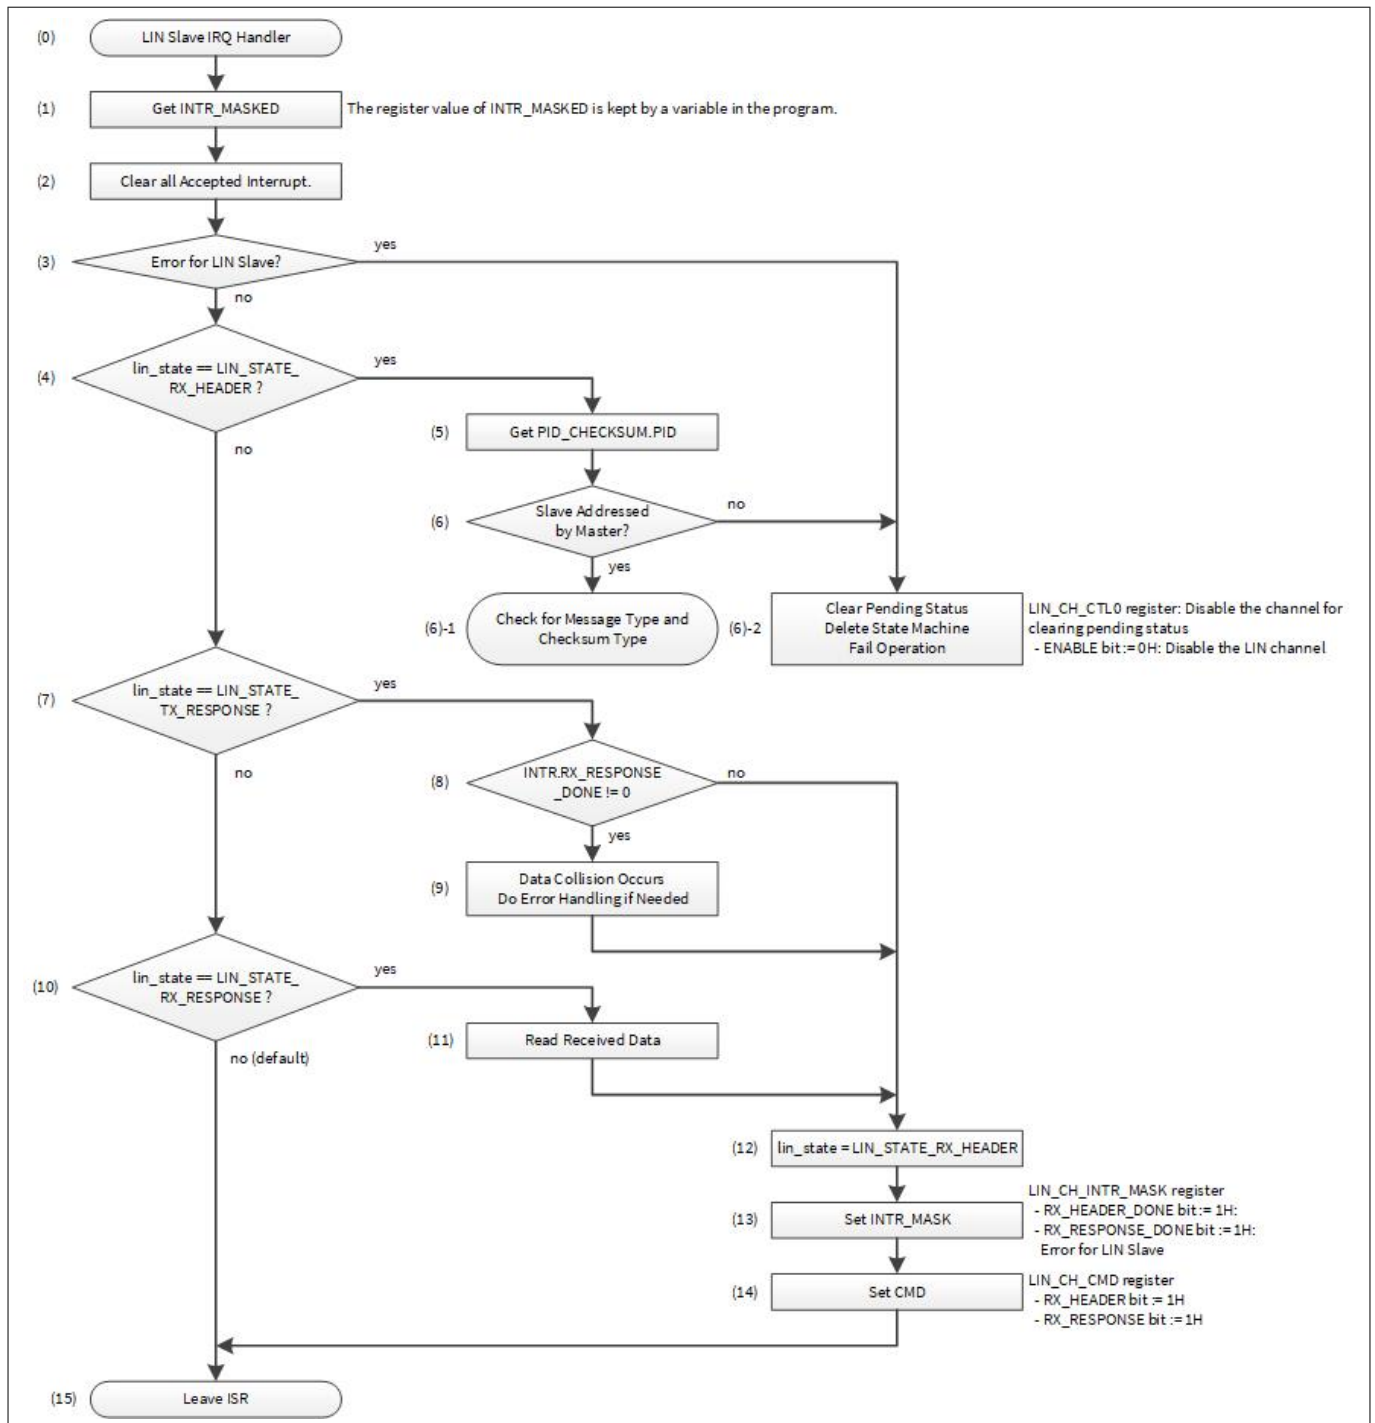
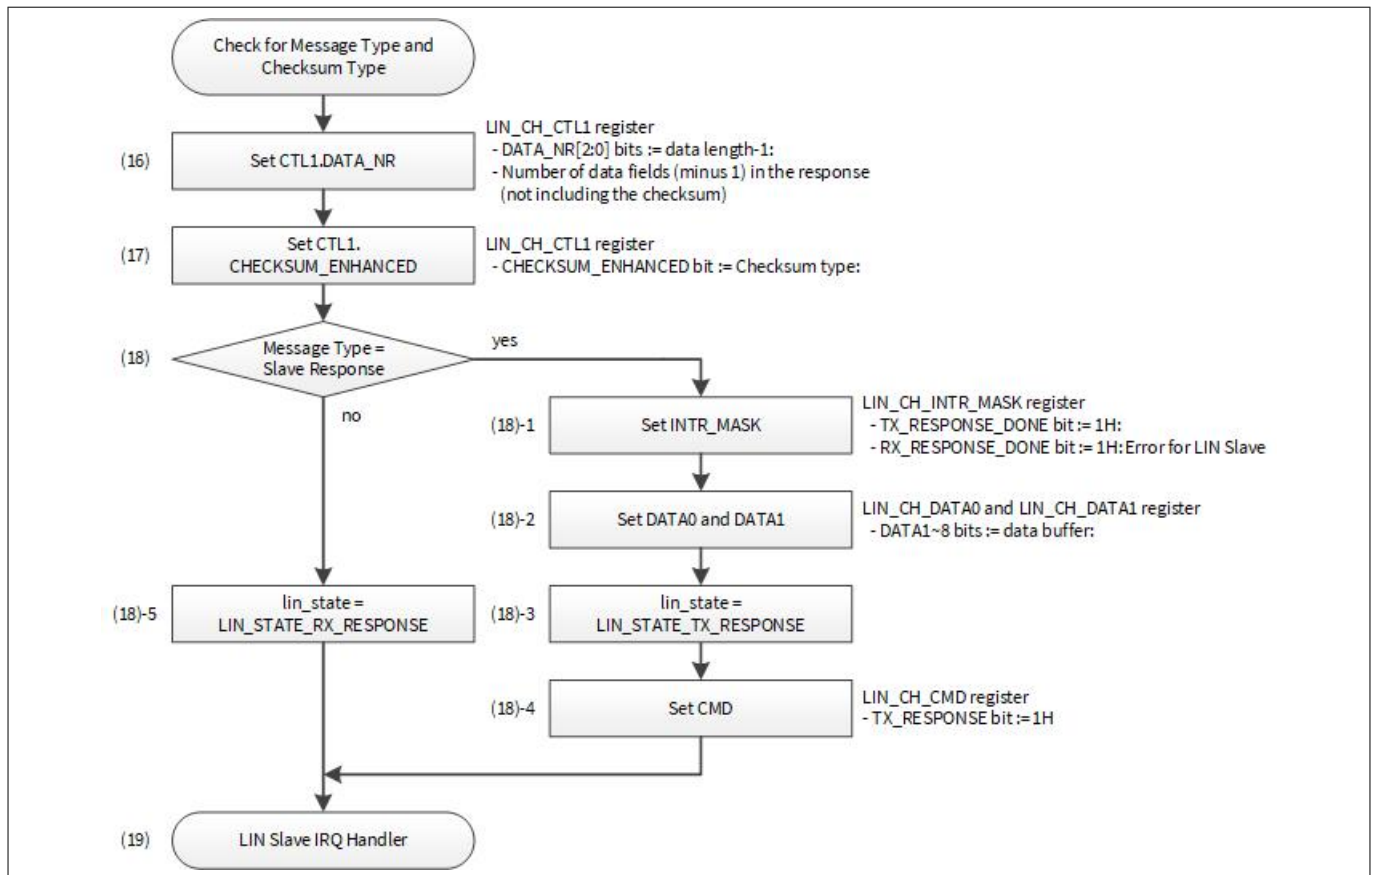

Figure 10 Example of LIN slave IRQ handler
Figure 11 Example of LIN slave checking for message type and checksum type
Figure 10 shows an example of how the LIN slave IRQ handler works. This flow is used in Code Listing 18.
- If the ID is present in Table 8, go to (6)-1
- (6)-1 Go to (0) in Figure 11
- (12) Configure the state to `LIN_STATE_RX_HEADER`.
- (13) Enable event interrupt by `LIN_CH_INTR_MASK` register.
- (14) Configure the command sequence.
- (15) Return from LIN slave IRQ handler and wait for the occurrence of the configured LIN interrupt as Table 2.
- Figure 11 shows how the message type and checksum type operations are performed. This flow is used in the case of jumping from (6) -1 in Figure 10 and in Code Listing 20.